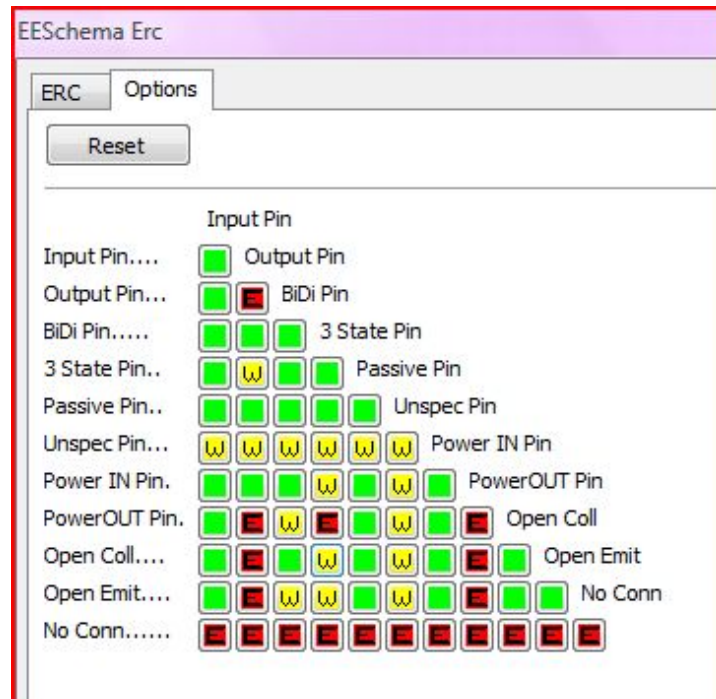

Figure 14.1: ERC Table
- User can actually decide what you want to be told about, by setting the table below accordingly. For instance if the user wanted the ERC to throw an error if an input was connected to an input then the user would change the topmost box from green (no message) to yellow (warning) or red (error) as shown in Fig. 14.1